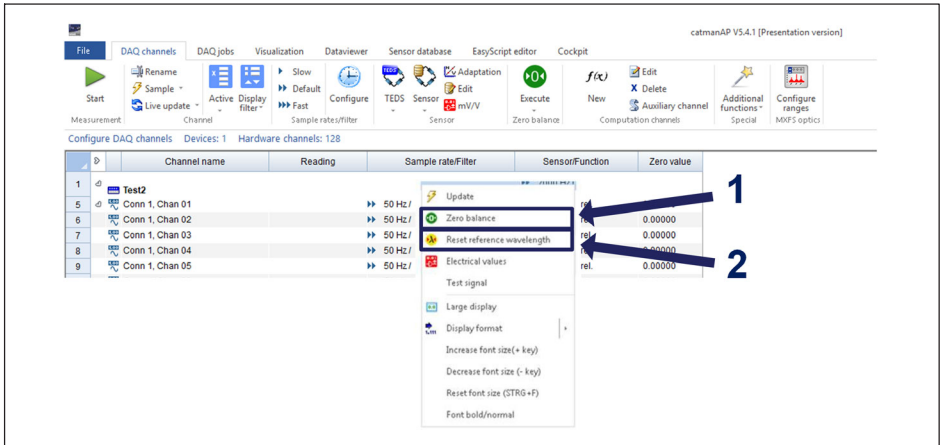

Fig. 4.27 Zero balance and reset reference wavelength
- ▶ Alternatively, right click on the line to zero and select **Zero Balance** option (number 1 in Fig. 4.27).
- ▶ Right click on the line to reset and select **Reset reference wavelength** option (number 2 in Fig. 4.27).